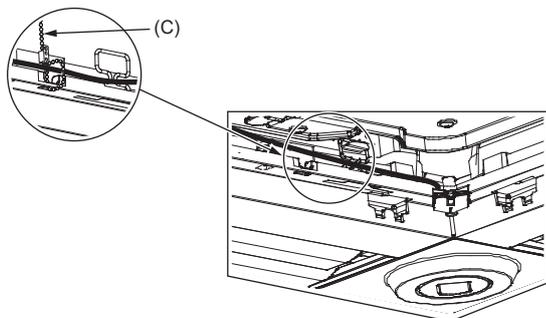

Fig. 6-13
- Secure the i-see Sensor and signal receiver wires to the panel with the fastener as shown in the diagram so that there is no slack in the wires, and then cut off the excess end of the fastener. (Fig. 6-13)
- If the position of the i-see Sensor was changed from the "○" position (E) to the "□" position (F), change the switch settings. (Refer to page 13.)